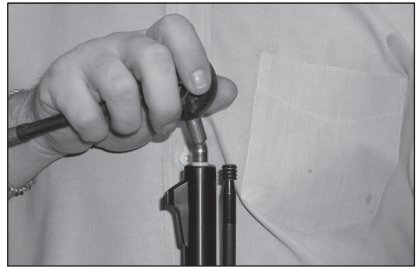

Figure 4
- c. Use short end of bullet starter to press bullet just into muzzle. (See Figure 4).
12. Use longer end of ball starter to move projectile about six inches down the bore. (See Figure 4).